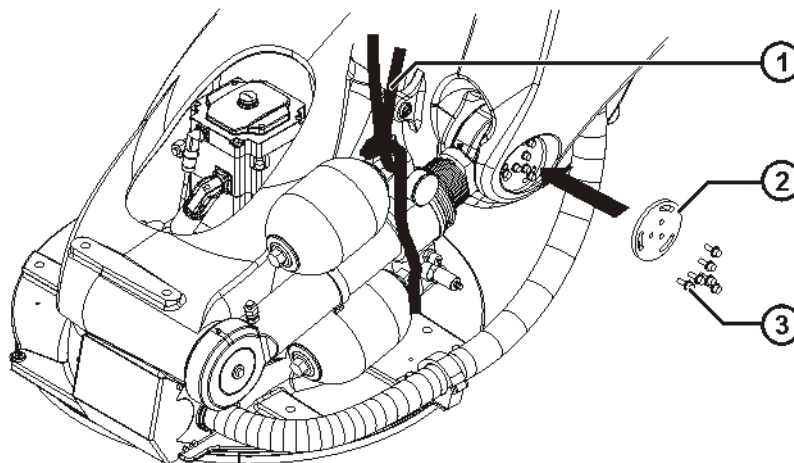

**Fig. 10-28: Installing the counterbalancing system: pin**
12. Move the link arm until the counterbalancing system can be inserted into the link arm. At the same time, move the element securing the link arm accordingly (>>> Fig. 10-28 ).